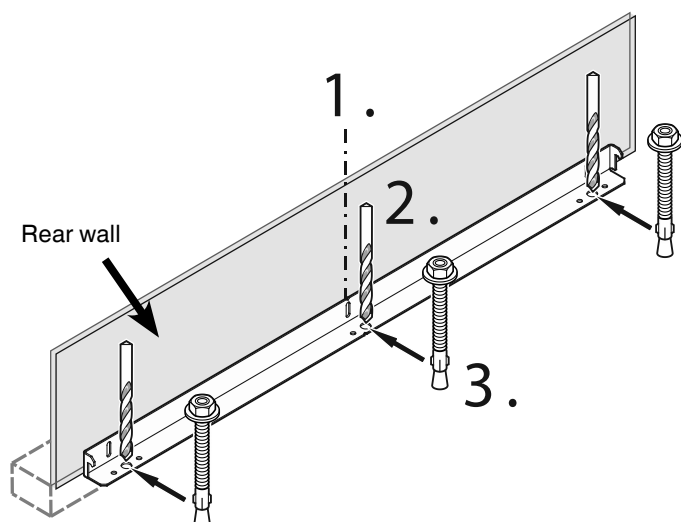

Figure 4
Mounting the anti-tipping device on concrete floors - figure 4 - 5
2. Drill 10 mm diameter holes in the positions shown in **figure 4** using a carbide drill bit.